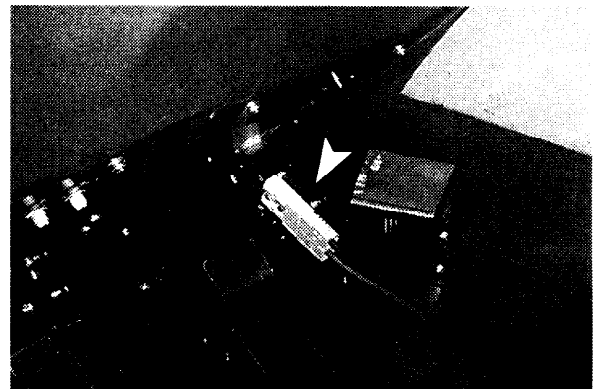

Figure 34
6. Connect battery charger to machine as shown (Fig. 34).